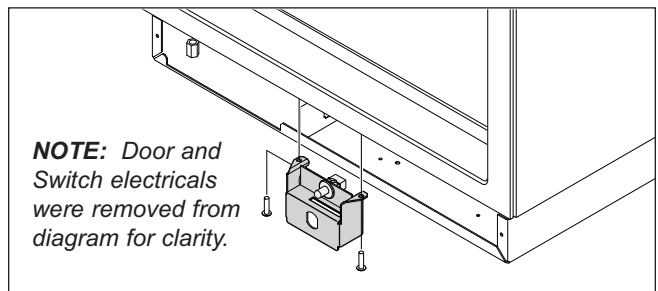

Figure 3. Switch Bracket Removal
3. Remove switch bracket from cabinet bottom by extracting its two mounting screws, one each side, then pull switch bracket down and forward as far as wires will allow (See Figure 3).